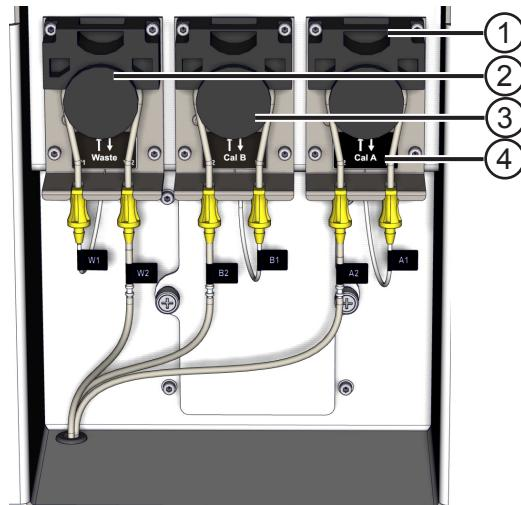

Figure 20 Order for positioning the different electrodes
Insert a tube into each peristaltic pump. To insert the tube into head of the peristaltic pump release the pressure on the head by pulling the clamp upward (1), see Figure 20.